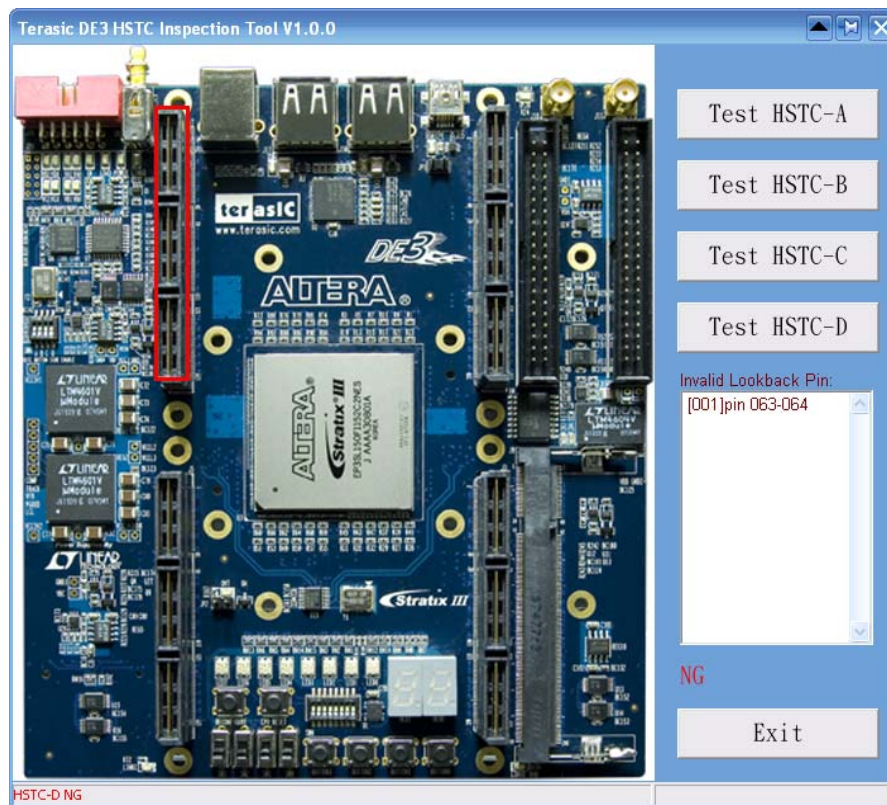

Figure D.5. The reported message of the invalid I/O pins
8. If the test result is failed, the HSTC pin number of the invalid pins will be listed on the panel of the DE3\_HSTC utility as shown in Figure D.5.